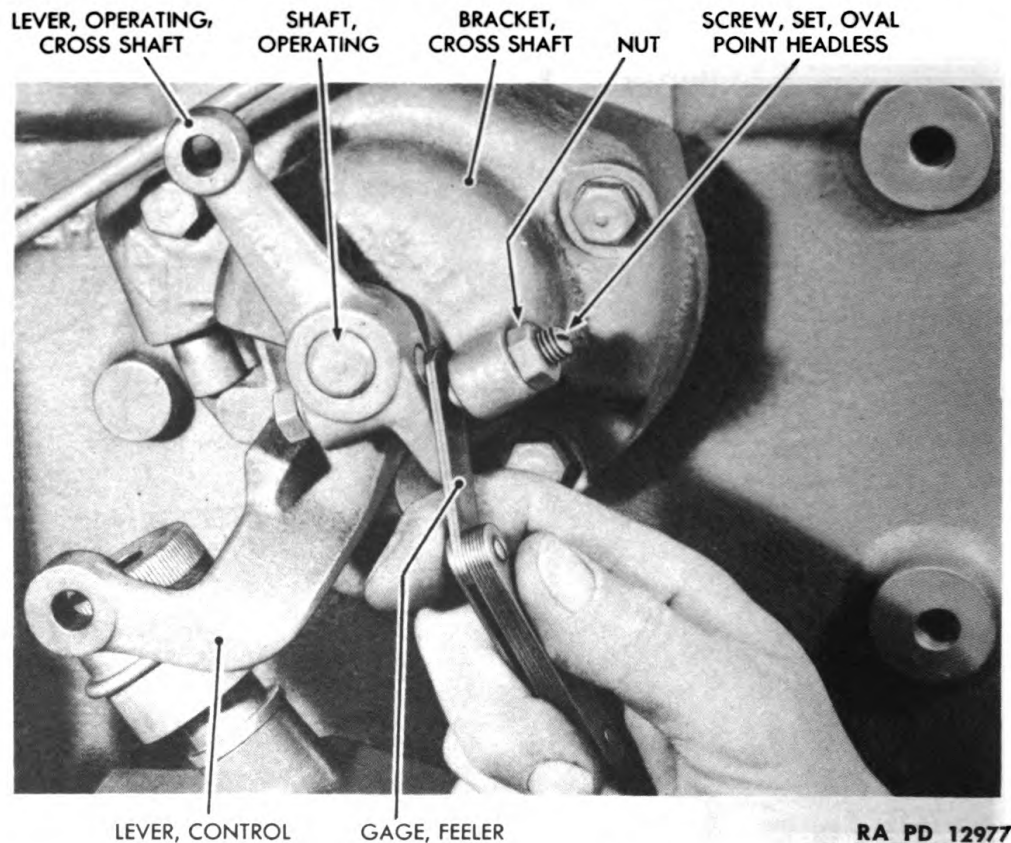

Figure 183—Adjusting Clearance between Cross Shaft Bracket Set Screw and Operating Lever
(9) ADJUST CLEARANCE BETWEEN CROSS SHAFT BRACKET SET SCREW AND CROSS SHAFT OPERATING LEVER (fig. 183).